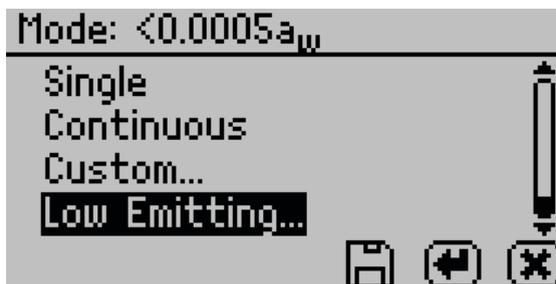

Figure 34 Low-Emitting mode screen
- ♦ Low-Emitting mode gives the option of speeding up test time by adjusting the equilibrium trigger value (Figure 34).